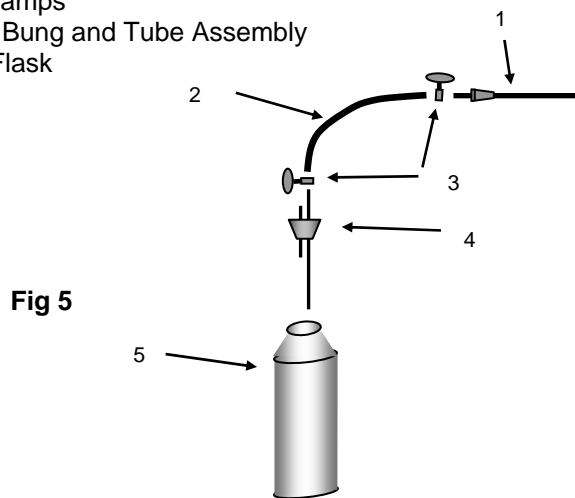

Fig 5
1. Assemble the apparatus as per Fig. 5.